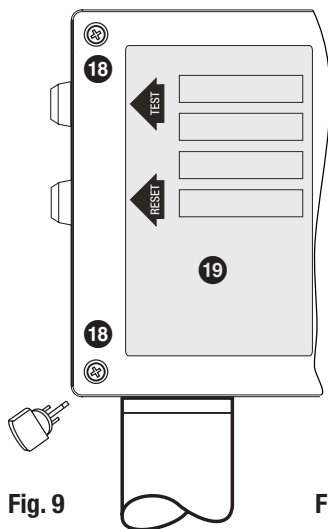

Fig. 9
Figure 9 is a schematic diagram of the wiring for the level switch. The diagram shows the connection of electrode wires (1, 2, 3, 4) to the level switch terminals (1, 2, 3, 4, 5, 6, 7, 8, 9, 10, 11, 12, 13, 14, 15). It also shows the connection of the level switch to the mains supply (L, N) through a fuse (F1) and a switch (S2). The level switch has a TEST button, a RESET button, and a PE connection point. The level switch is labeled with MAX and MIN levels.
1. Make sure that the level switch is wired as specified in the wiring diagram. **Fig. 9**